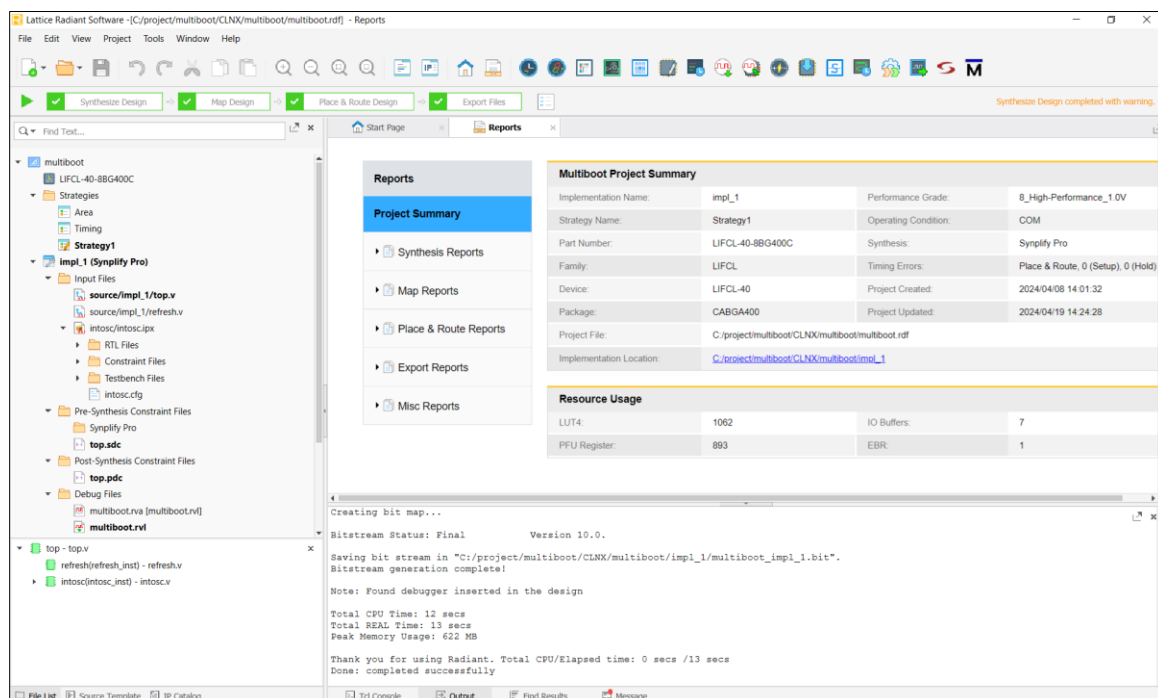

Figure 6.3. Generated Bitstream Log
- Click **Export Files** to generate the bit file (Figure 6.3). View the log message in the Export Reports folder for the generated bitstream. Once the compilation is successful, the generated bit file is in the project implementation folder, for example, multiboot\impl_1\multiboot_impl_1.bit. Repeat this step for other design implementations if you need to recompile the design.